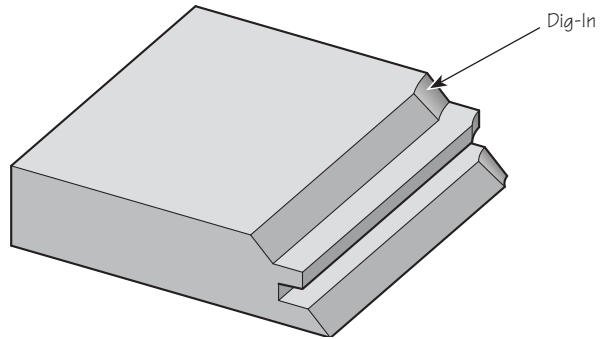

Figure 8: Dig-in from unsupported workpieces.
*Note: When properly set up, the drawer lock bit removes the entire reference surface of the workpiece. This means that the outfeed end is not supported after passing over the bit and dig-in at the end is possible (see **Figure 8**).*